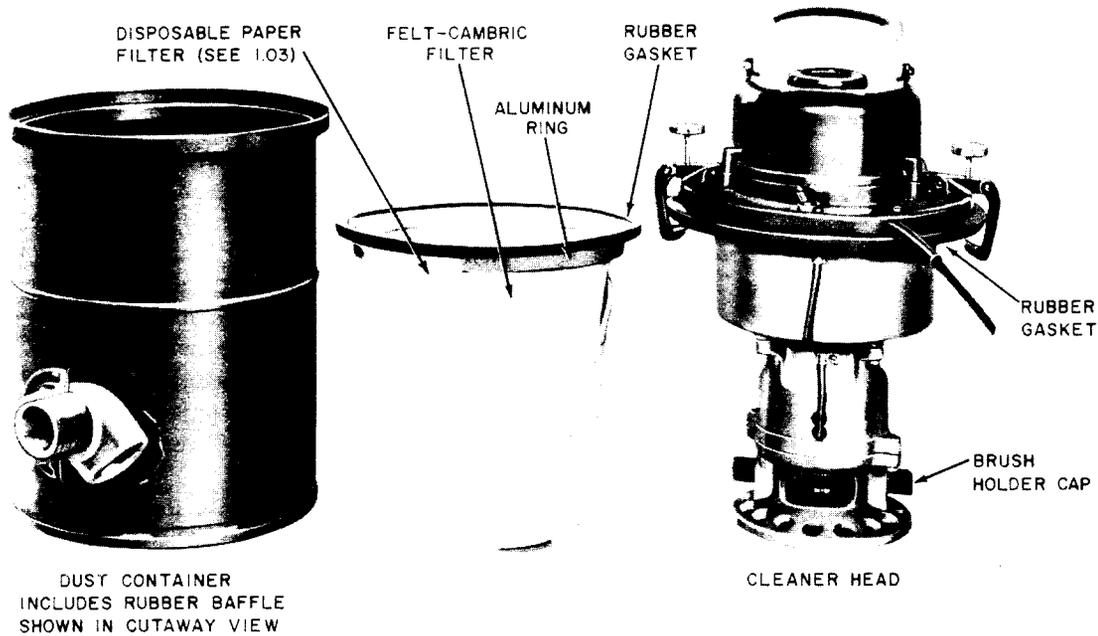

Fig. 2—KS-14377 L5 (Standard) and L6 (Silent) Vacuum Cleaner
(3) If the dust container is provided with the rubber baffle described in 1.03 and shown in Fig. 2, the filter assembly should have a disposable paper filter mounted over the felt-cambric filter. If the paper filter is clogged with dust or is missing, mount a new paper filter as follows: Remove the old paper filter. Examine the felt-cambric filter and if it is clogged or torn replace it. Slip the new paper filter over the outside of the felt-cambric filter until the cardboard ring in the paper filter is against the rubber gasket of the filter assembly.
(4) If the dust container does not have a rubber baffle as shown in Fig. 2, examine the felt-cambric filter and if it is clogged or torn replace it.
(5) Place the filter assembly in the dust container and remount the cleaner head in the dust container as covered in 3.002(2).
(6) Clean the commutator as follows. Remove the motor brushes as covered in 3.003(1). Turn the commutator with the fingers and wipe the surface with a clean, dry KS-14666 cloth. If the commutator surface is smutted and cannot be so cleaned, clean it with a KS-14666 cloth moistened with KS-7860 petroleum spirits. Then wipe the commutator dry with a clean dry KS-14666 cloth. Remount the motor brushes as covered in 3.003(2).